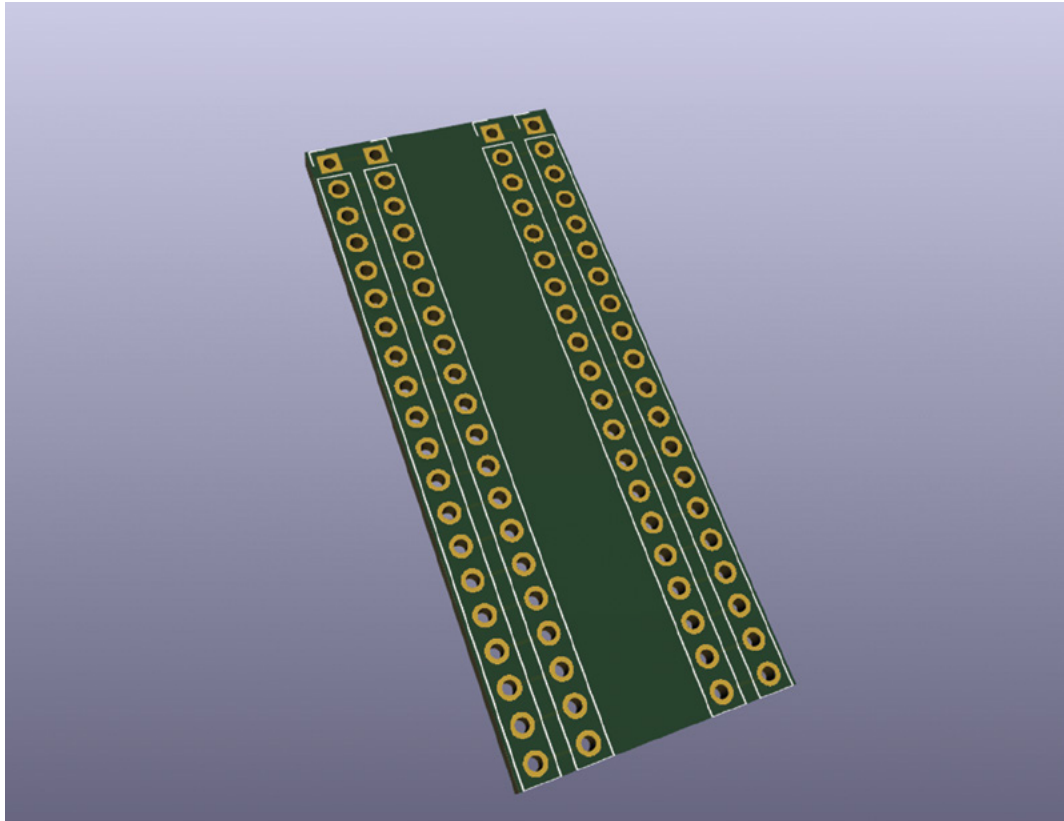

Figure 7  A first glimpse of our rendered PCB board
Once we have positioned the board edge rectangle correctly, we can get a first glimpse of our board in the 3D Viewer. You can actually look at the board in the 3D Viewer before adding an edge cut, and it will render to a rectangle size that is the smallest that can accommodate all the footprints currently in the PCB. To view the PCB, click View > 3D Viewer. You'll see the board, but you'll notice that all the 3D models of the header sockets are all placed into the rows of holes. In reality, we would only want headers on the outer rows installed on the back of the board, with the inner rows left unpopulated, or possibly populated with header pins. We could edit the board and the component footprints to reflect this, but for this 'getting started' example, we can click the Toggle 3D Models for Through Hole type Components (T) icon to turn off the models (**Figure 7**). In future articles, we'll explore not only using correct 3D models but we'll